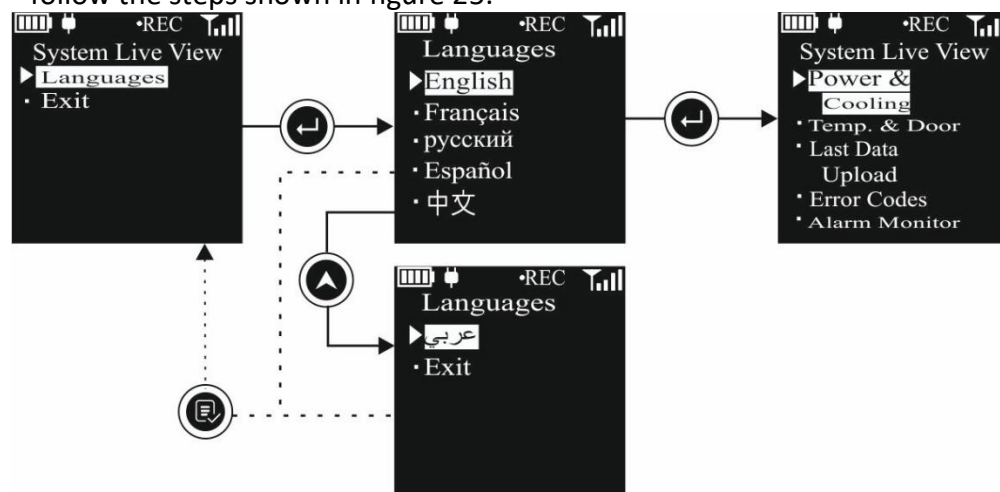

Figure 25 Language Selection Menu
6. **Languages:** The I-EMD display's default language is English. Users can change the language through the Language Settings menu. Available language options include English, French, Russian, Spanish, Chinese, and Arabic. To select a preferred language, follow the steps shown in figure 25.